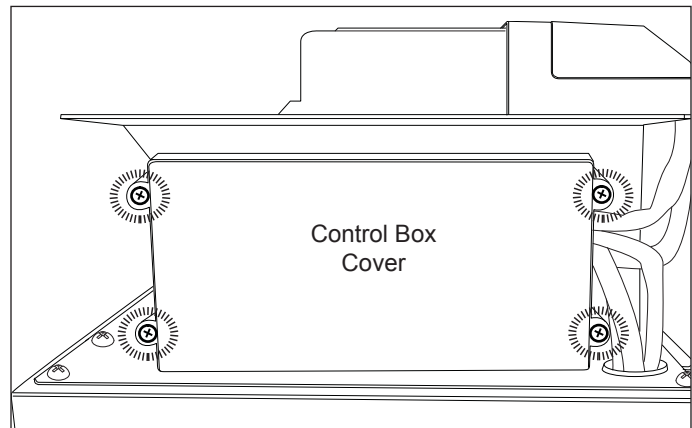

Figure 4-11 Control Box Cover Removal
2. Extract screws  securing the control panel cover to control box and remove cover. (See Figure 4-11)